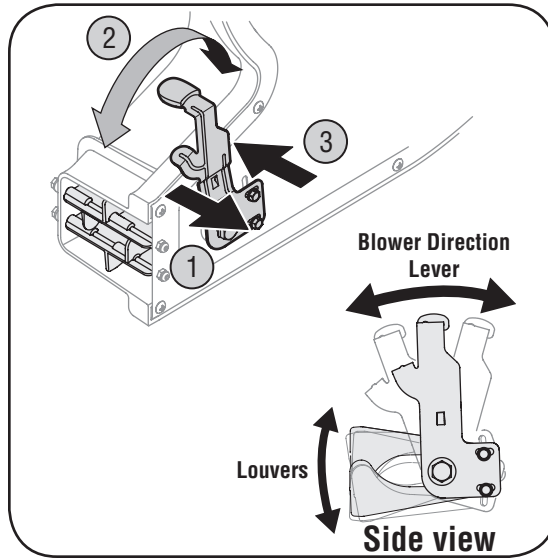

Figure 5-1
- Pull the lever out and away from the blower. See Figure 5-1.